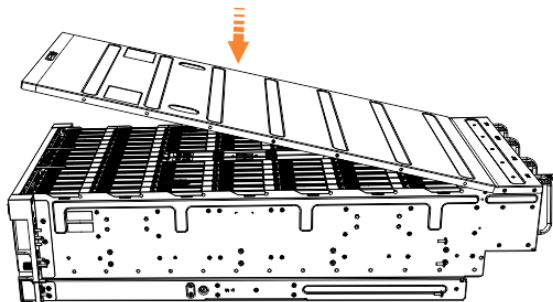

Figure 147. Aligning the top cover
6. Carefully lower the cover and ensure that it is aligned correctly with the back of the enclosure, as shown in Figure 147 on page 183.